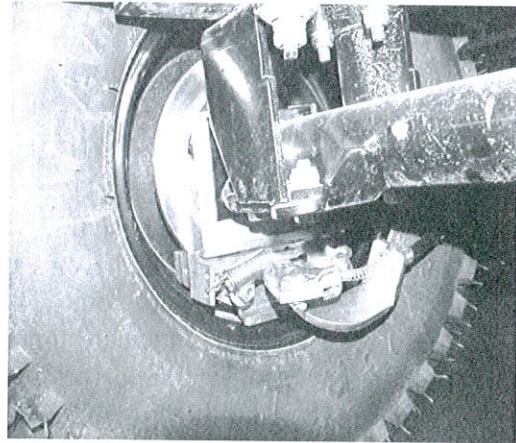

Fig 15 – Brake inside wheel
21. Verify wheel does not contact brake. (See Fig. 15)